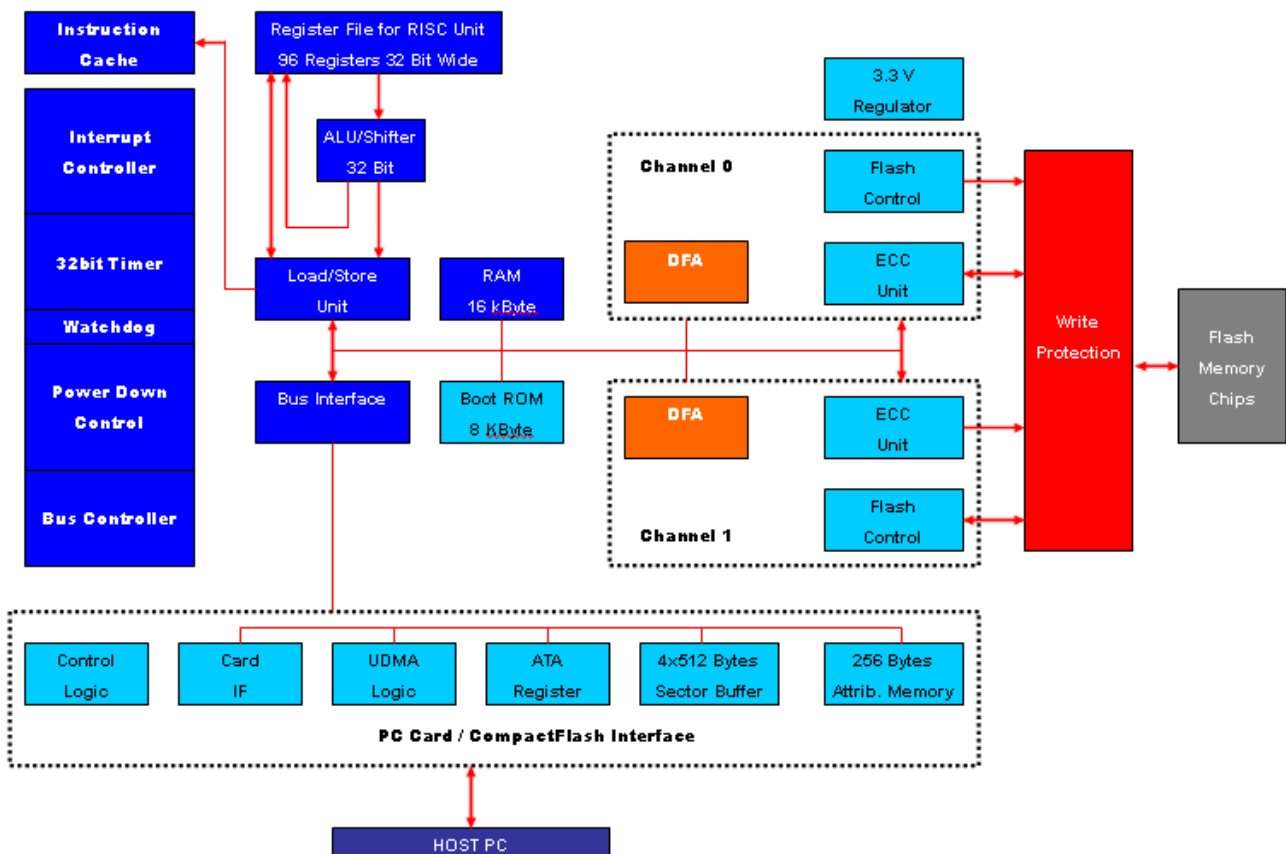

Figure 1: Write Protect function CompactFlash Card HERMIT Series System Block Diagram
Figure 1 shows a block diagram of the used high tech Industrial CompactFlash (CF) Card supports Write Protect function.